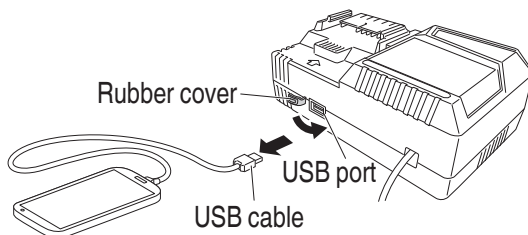

Fig. 18
- (3) When charging is completed
- Unplug the power cord from the electrical outlet. (Fig. 18)